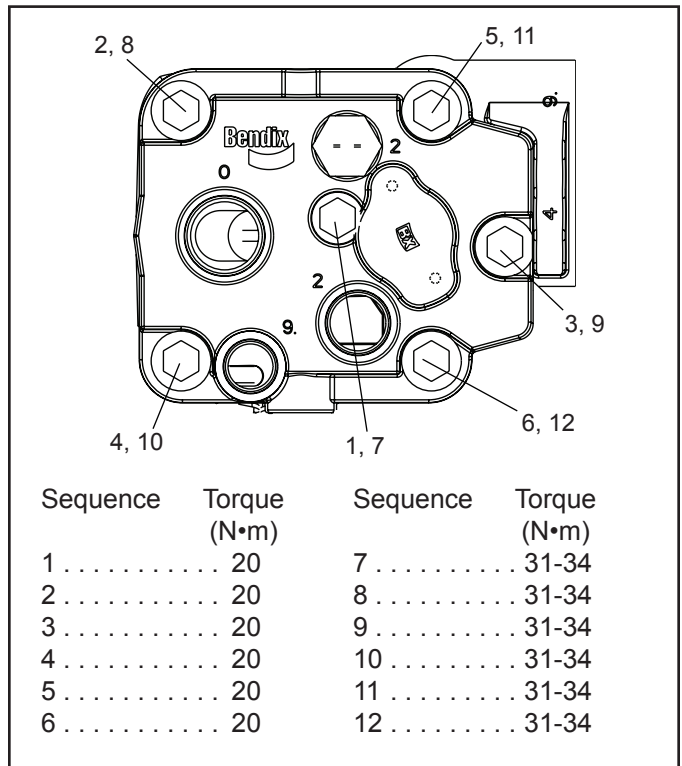

Figure 3 – Closed Room Compressor Head Bolt Torque Sequence
1. Note the position of the protruding alignment pins on the deck (top) of the crankcase. Install the metal inlet reed valve/gasket (2) over the alignment pins on the crankcase.
3. Position and install one of the embossed metal gaskets (1) over the alignment bushings protruding from the cooling plate. Position and install the second embossed metal gasket (1) over the alignment bushings on the opposite side of the cooling plate. When properly installed, the outline of the two embossed gaskets match the outline of the cooling plate.
6. Install the 6 hex head cylinder head bolts and washers and snug them (finger tight), then torque the bolts in the sequence specified in Figure 3.